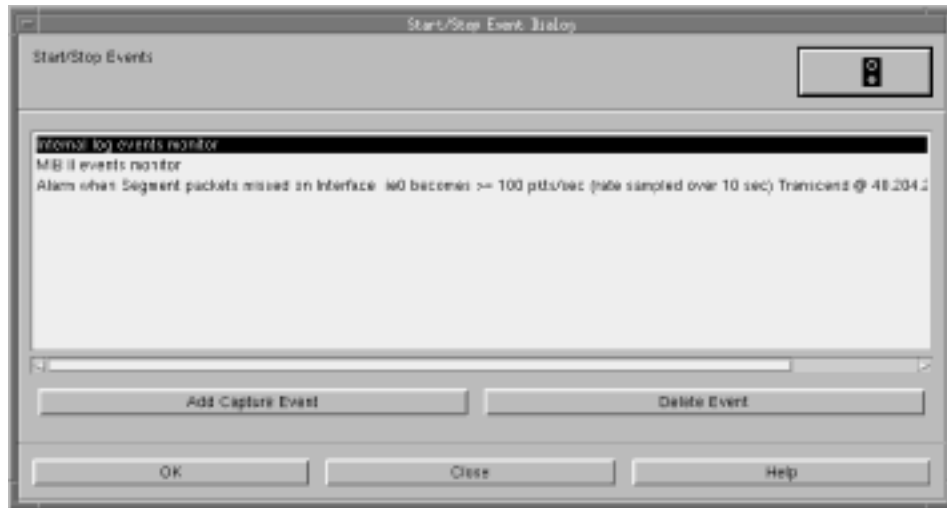

Figure 51. Start/Stop Events Dialog Box
- b. Click **Start Event** or **Stop Event** to open the Start/Stop Event dialog box, shown in Figure 51.